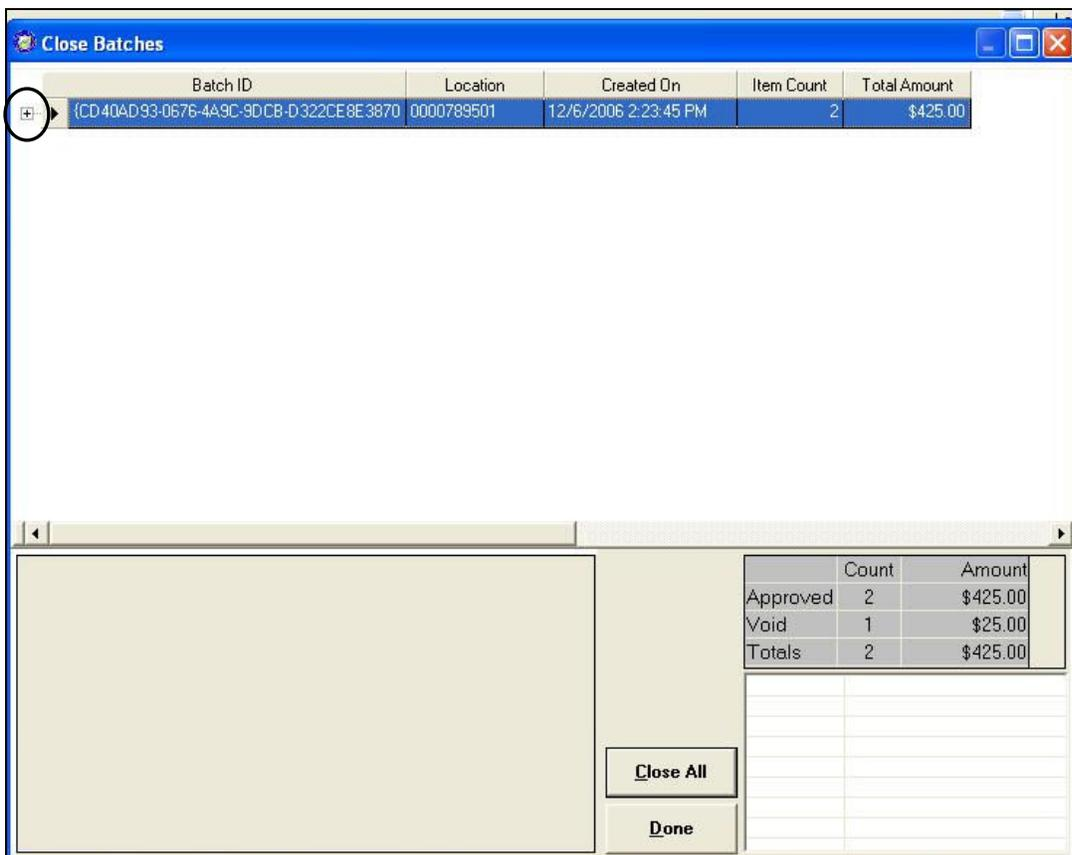
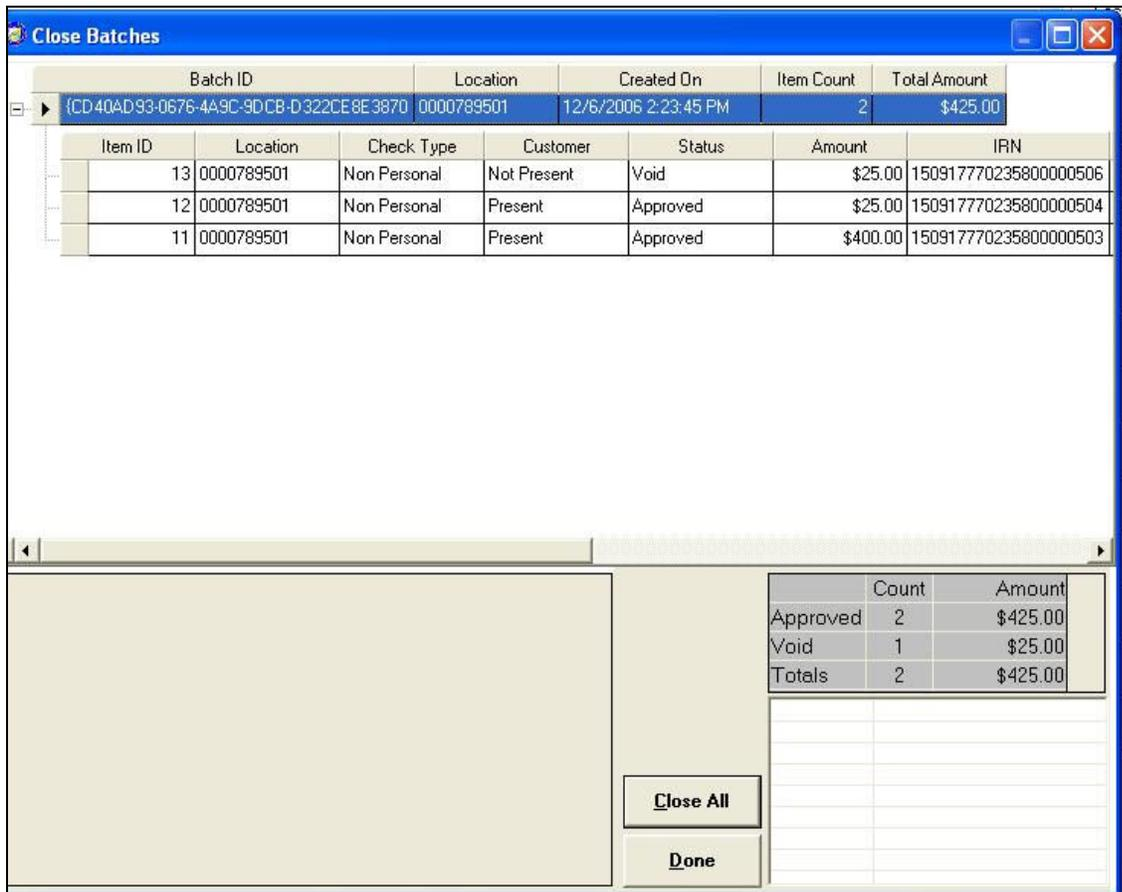

Figure6.62
Figure 6.63
2. A ‘Batch List’ window appears (Figure 6.62). Click the ‘+’ button to show all of the items that have been scanned into the POS computer for that batch (Figure 6.63). Clicking on each item in the upper window displays that item’s image in the lower left portion of the window. The lower right side of the window displays the item count and dollar amount of the approved and voided items as well as total count and dollar amounts.